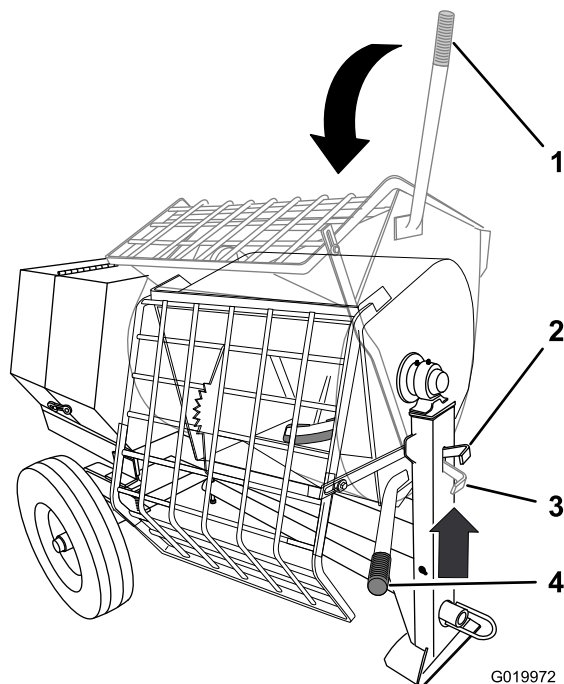

Figure 27
2. Grasp the dump handle with your left hand (Figure 27).
3. Lift the handle of the drum latch (Figure 27).
4. With both hands on the dump handle, rotate it counterclockwise to discharge the contents of the drum (Figure 27).
5. Rotate the dump handle **clockwise** until the drum latch locks the drum in the upright position (Figure 27).